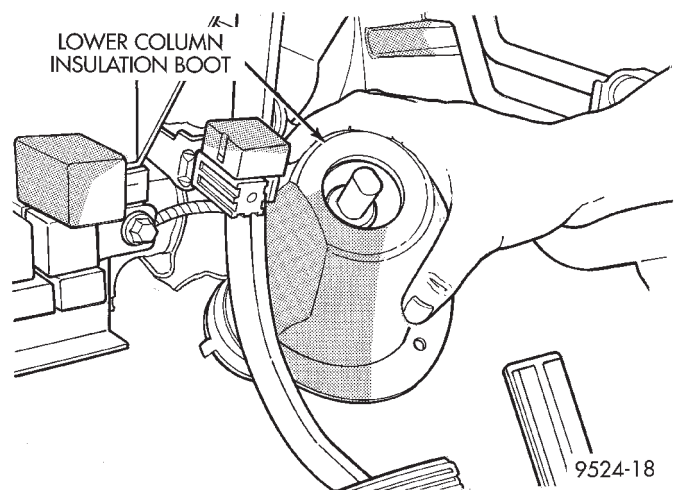

Fig. 33 Lower Silencer Boot
(6) Remove lower silencer boot at base of steering shaft (Fig. 33)
(7) Pinch off heater lines under the hood.